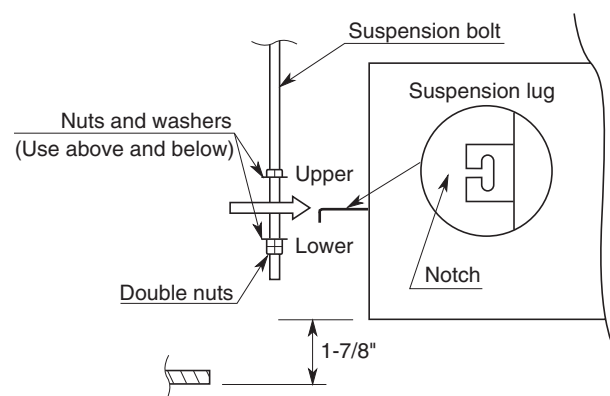

Fig. 3-5
- (3) Thread the 2 hexagonal nuts (field supply) and washers onto the 4 suspension bolts as shown in Fig. 3-5.